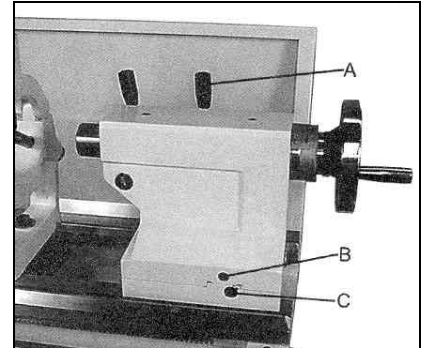

Fig 19
To offset the tailstock, loosen the locking handle (A, Fig 19), loosen the front adjusting screw (B) and take up the same amount on the rear adjusting screw.